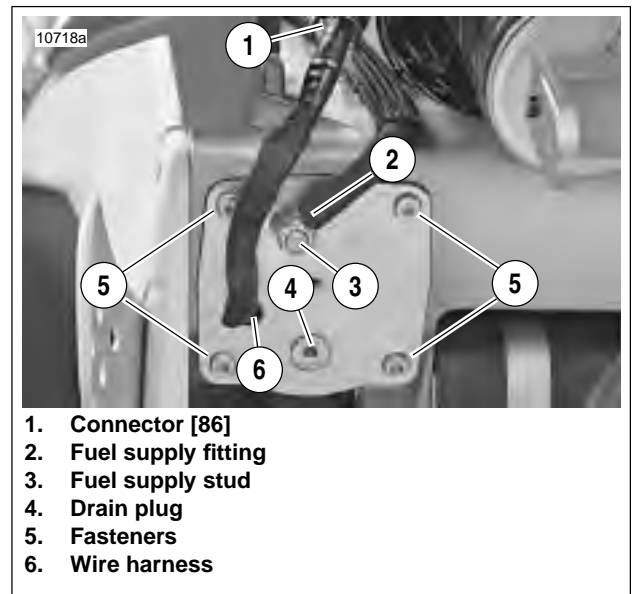

Figure 4-101. Fuel Pump Wire Harness Location
3. See Figure 4-101. Remove terminals from fuel pump connector [86].